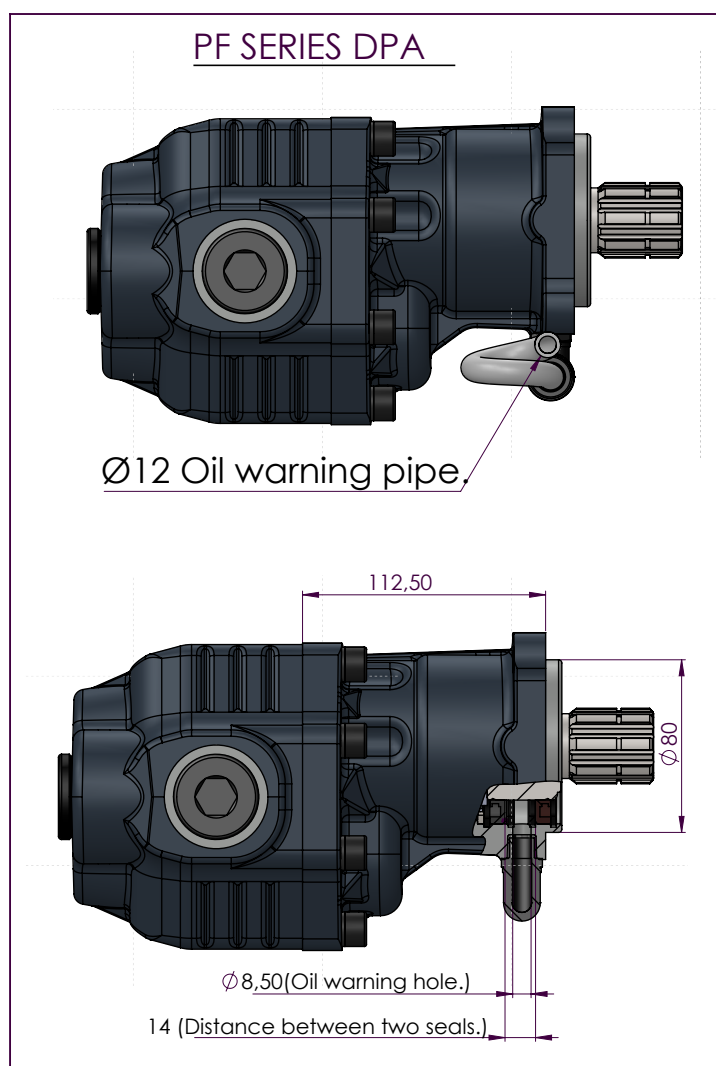
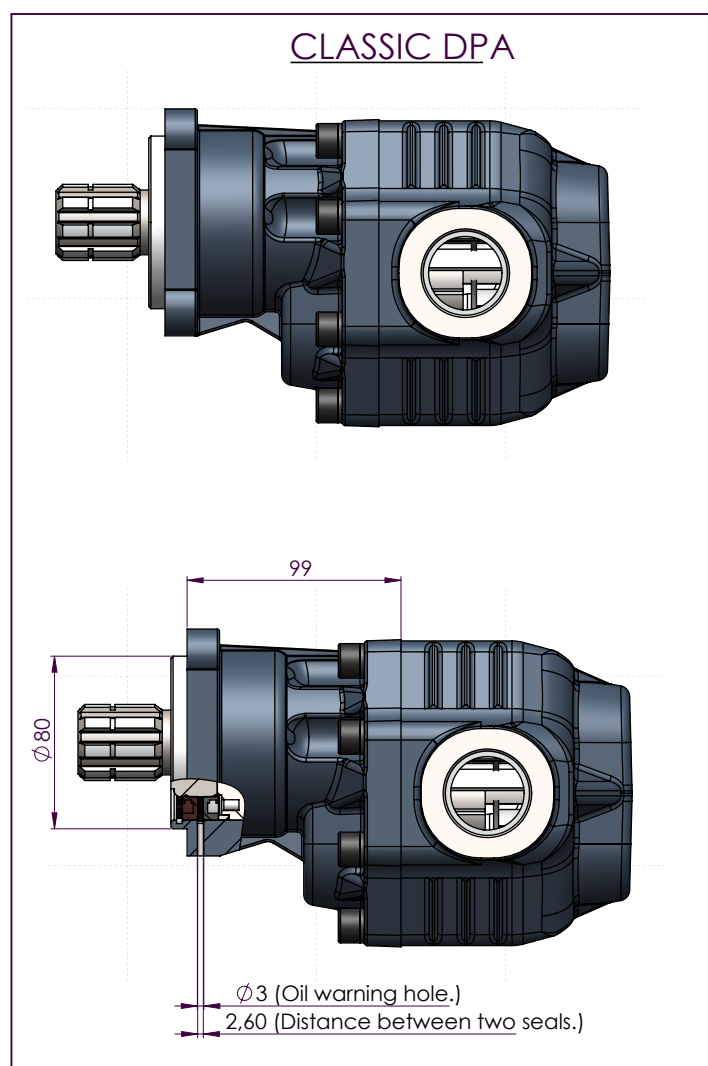

Figure 1.
Figure 2.
You can see the difference between the distance between the seals and the oil warning holes in Figure 1 and Figure 2.
2) Since the oil warning hole (Figure 2.) is Ø3mm in classical DPA pumps, oil leaks become invisible as dust, mud etc. factors will cover the hole more easily. Such a situation has been prevented by designing PF series.